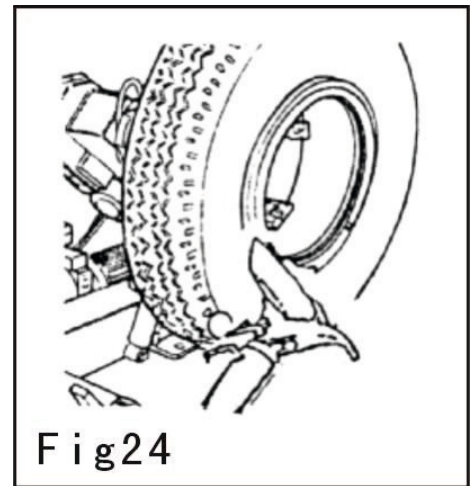

Fig 24
- 4) Move the tool rack to the outside and disk towards the wheel and lean against the rim. Rotate the main shaft and meanwhile forward the disk making the whole rim into the tire. Place the open ring on the edge of the wheel and install the ring with the help of the bead breaking disk **Fig 24**.